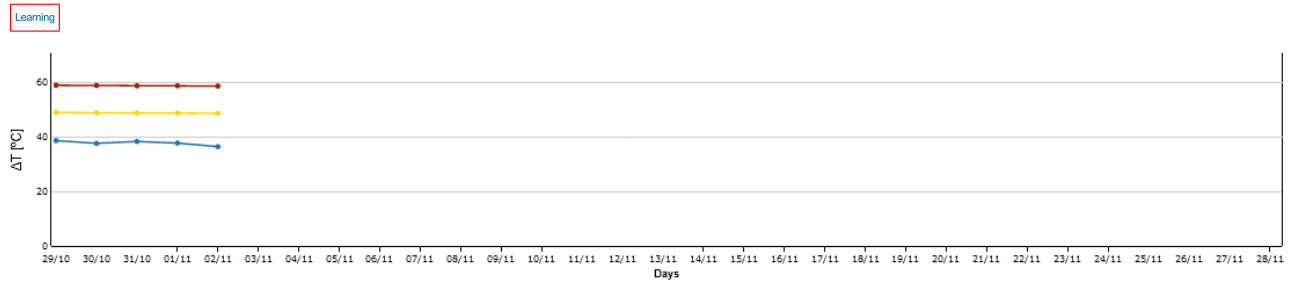
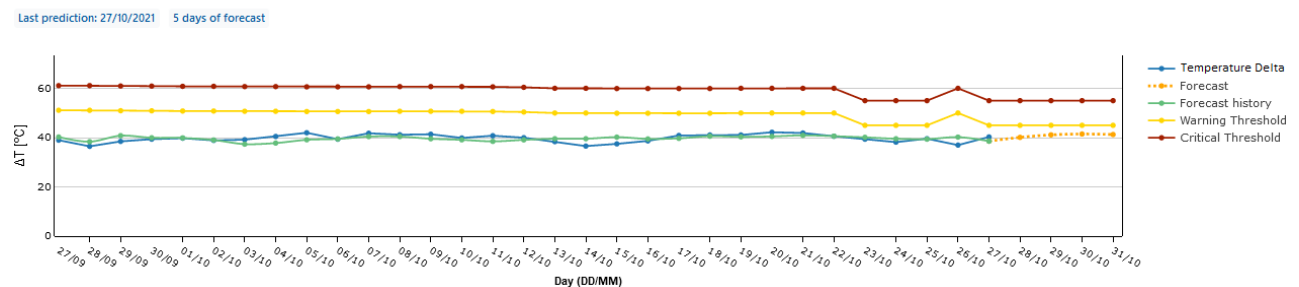

Figure 8.9: Graph with  $\Delta T$  being learned by the ML algorithm
Figure 8.10: Graphs of  $\Delta T$  values displayed in temperature Elevation diagnostics ( $\Delta T$ )
Through the  $\Delta T$  behavior curve, the Drive Specialist automatically sets the ALERT and CRITICAL thresholds for the highest daily value of the  $\Delta T$ . In addition, Drive Specialist predicts the maximum daily  $\Delta T$  expected for up to the next 5 days (Figure 8.10). To establish the  $\Delta T$  prediction, the Drive Scan needs to record at least **25 days** of Temperature Delta data, otherwise the Machine Learning (ML) system will be learning the behavior of the variable (as per Figure 8.9). The forecast stages can be checked as per Table 8.4.